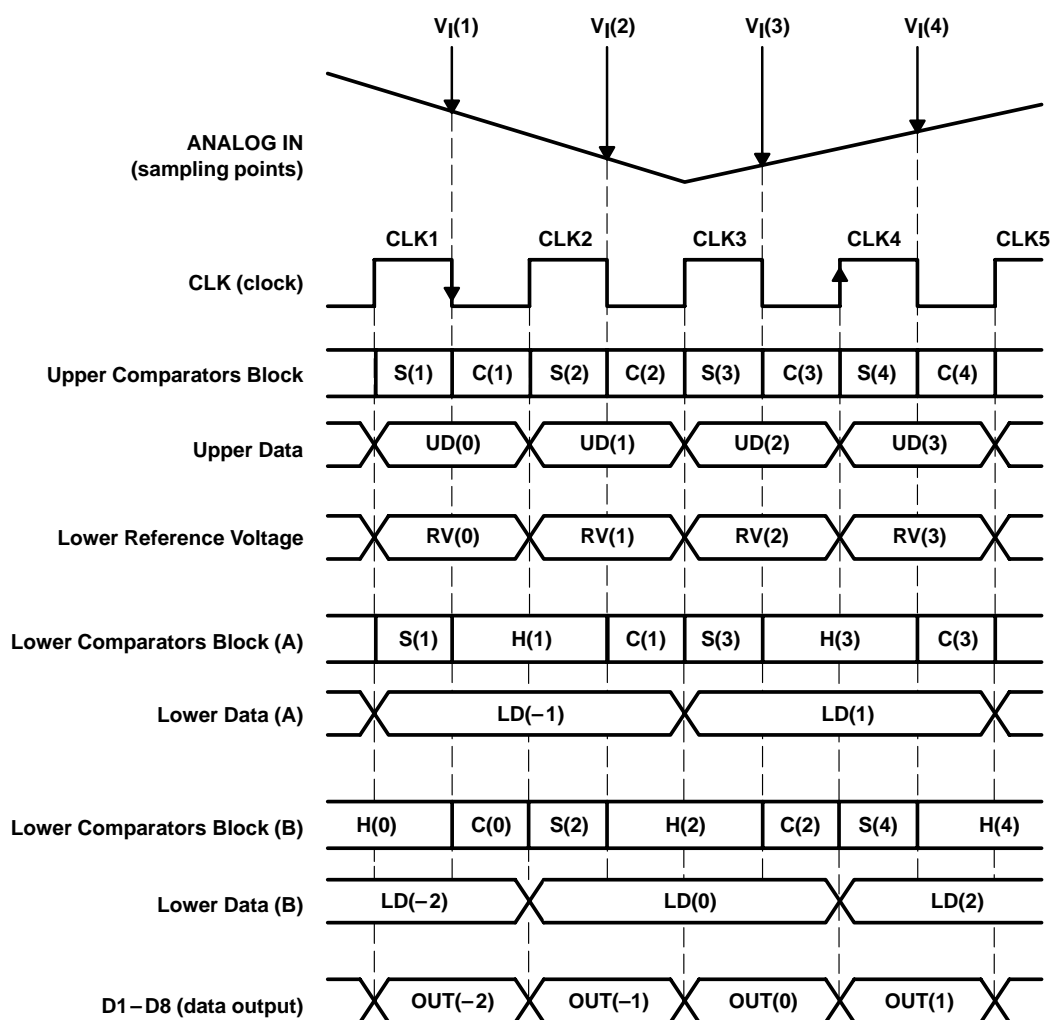

Figure 2. Internal Functional Timing Diagram
As shown in Figure 2, input voltage  $V_I(1)$  is sampled with the falling edge of CLK1 to the upper comparators block and the lower comparators block(A), S(1). The upper comparators block finalizes the upper data UD(1) with the rising edge of CLK2, and simultaneously, the lower reference voltage generates the voltage RV(1) corresponding to the upper data. The lower comparators block (A) finalizes the lower data LD(1) with the rising edge of CLK3. UD(1) and LD(1) are combined and output as OUT(1) with the rising edge of CLK4. As shown in Figure 2, the output data is delayed 2.5 clocks from the analog input voltage sampling point.